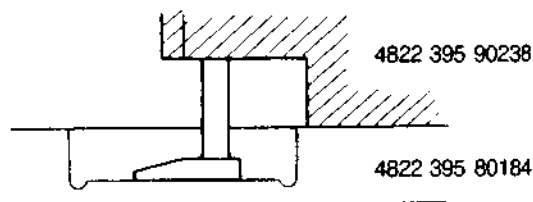

Fig. 2-6
- Place the foot on the adjustment plate so that the foot of the meter touches the cut-out portion of the plate. Set the meter to zero "0" (reference setting) as shown in Fig. 2-6.